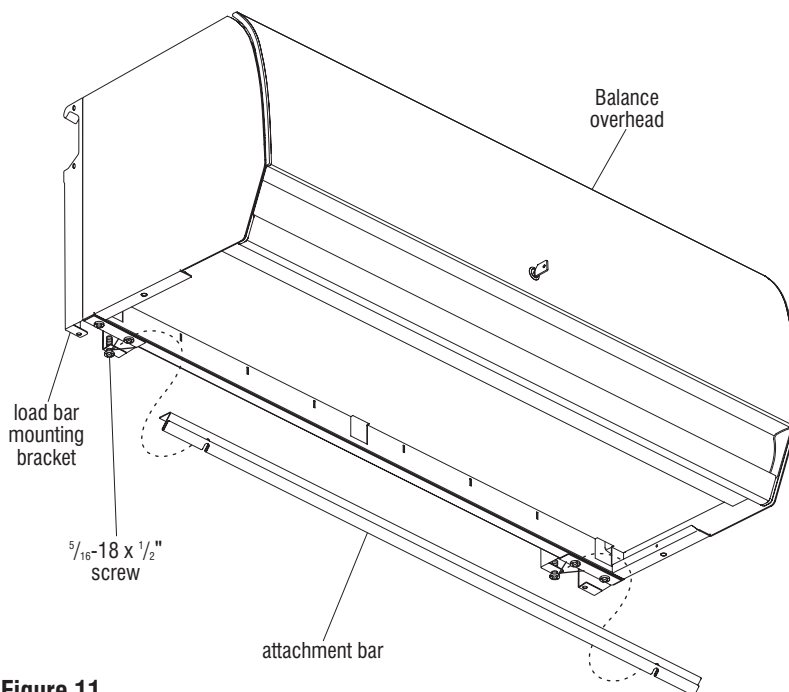

Figure 11
**Note:** Overhead units installed to panel systems using a load bar mounting bracket may utilize a tack board or tool rail which is installed to an attachment bar. The attachment bar is secured to the load bar mounting bracket of the overhead (Figure 11).
1. To install attachment bar to the load bar mounting bracket as illustrated, first twist in two  $\frac{5}{16}$ -18 x  $\frac{1}{2}$ " screws at the location illustrated such that a  $\frac{1}{8}$ " gap is left under the head of both screws (Figure 11).
2. Orient the attachment bar as illustrated, align the slots in the attachment bar with the two screws from step 1 and slide attachment bar into place. Tighten the two screws to secure attachment bar in place (Figure 11).